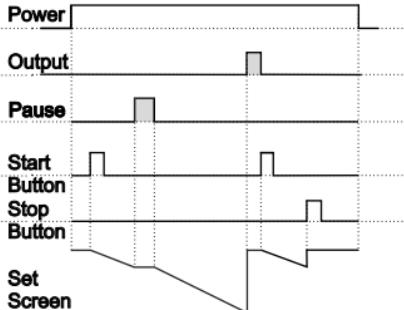

Figure 1.2
1.1.2 If downcount $dEct = 1$ and $outF$ is $0FF$ the control diagram is shown in Figure 1.2